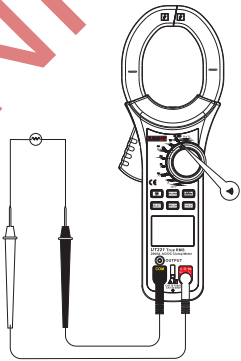

Figure 7
5. Continuity test () (See Figure 7)